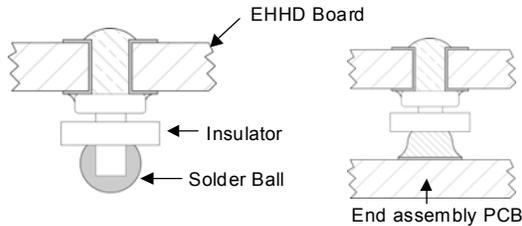

Figure 22. Column Pin Connector Before and After Reflow Soldering .
The surface mountable modules in the EHHD family use our newest SMT technology called “Column Pin” (CP) connectors. Figure 22 shows the new CP connector before and after reflow soldering onto the end-board assembly. The CP is constructed from a solid copper pin with an integral solder ball attached, which is composed of tin/lead (Sn/Pb) solder for non-Z codes, or Sn/Ag₃/Cu (SAC) solder for –Z codes.